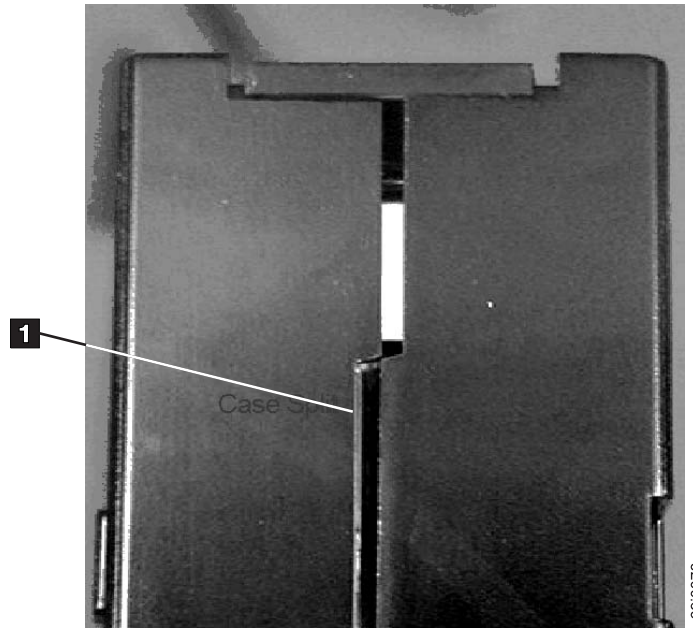
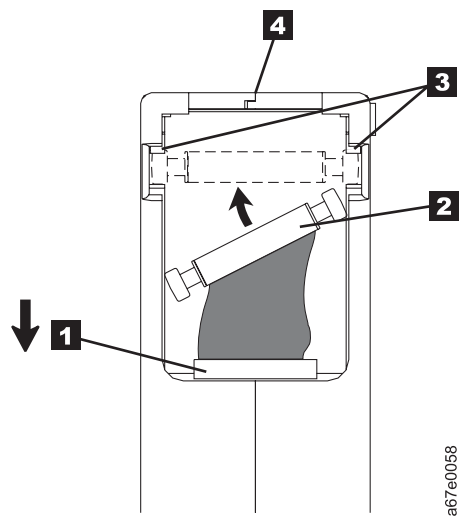

Figure 9-7. Checking for gaps in the seams of a cartridge
Figure 9-9. Placing the dislodged leader pin into the correct position. The cartridge door is open to show the leader pin.
- Inspect the rear of the cartridge (the part that loads first into the tape load compartment) and ensure that there are no gaps in the seam of the cartridge case (see **1** in Figure 9-7 on page 9-10 and **4** in Figure 9-9 on page 9-12). If there are gaps in the seam (see Figure 9-7 on page 9-10), the leader pin may be dislodged. Go to “Repositioning or Reattaching a Leader Pin” on page 9-11.
Example: Split Cartridge Case (see Figure 9-7)
1. Slide open the cartridge door (**1** in Figure 9-9) and locate the leader pin **2** (you may need to shake the cartridge gently to roll the pin toward the door).